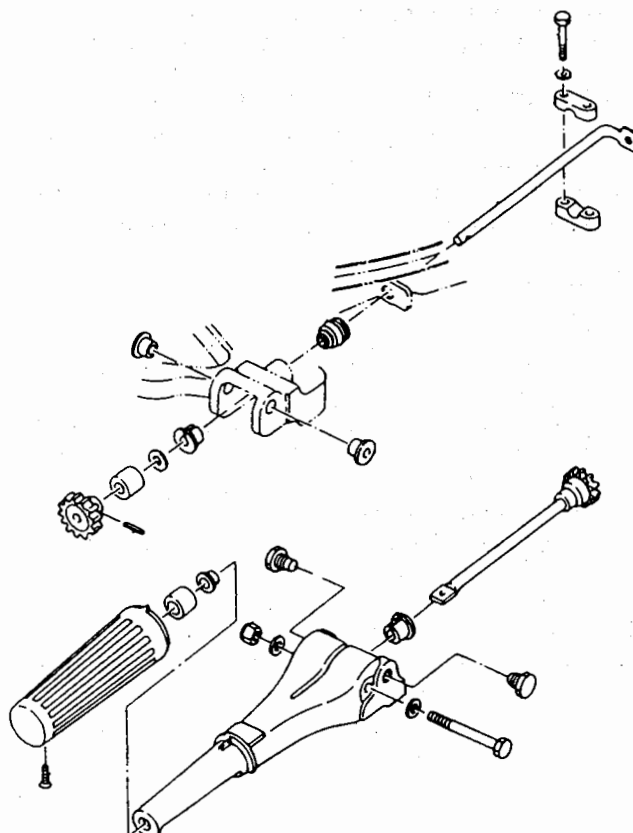

Fig. 89 Handle parts
- 1) Please apply grease for TOHATSU outboard motor use before assembling sliding parts such as the grip throttle shaft bush, universal pinion and throttle supporter. (Fig. 89)